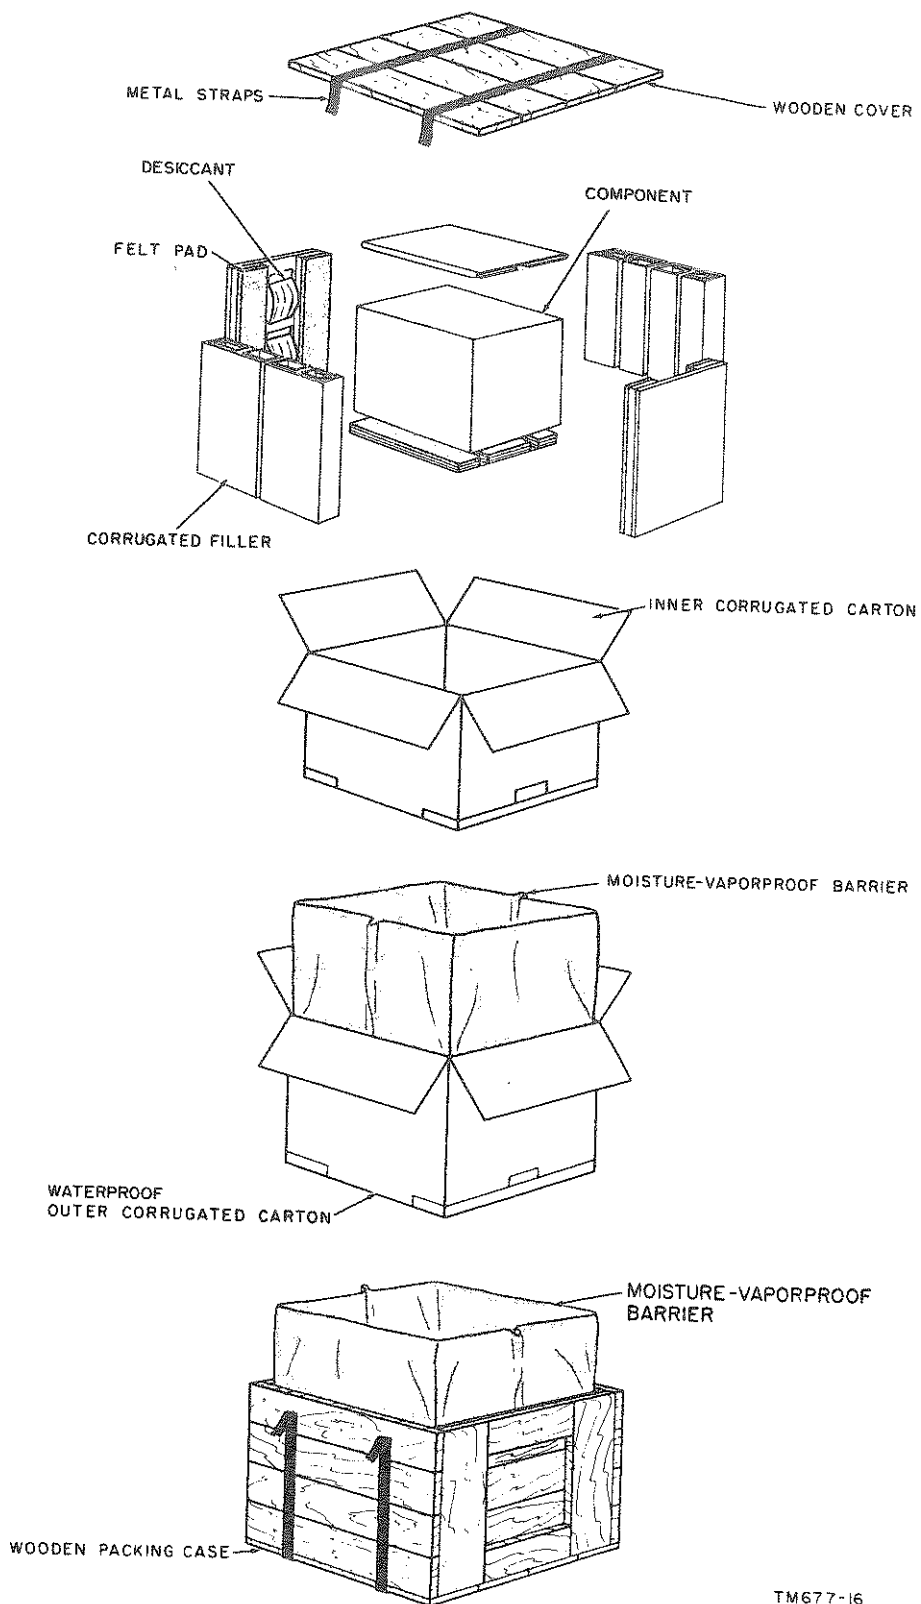

Figure 16. Typical unit packed for export shipment.
- (1) Cut and fold back the steel straps (fig. 16).
- (2) Remove the nails holding the top of the crate with a nail puller. Remove the top of the packing crate. *Do not attempt to pry off the sides and top; the equipment may become damaged.*
- (3) Remove the moistureproof barriers and any excelsior or corrugated paper covering the equipment inside the crate. See below for instructions on removing the waterproof metal container (if used).
- (4) Remove the equipment from its inner container.
- (5) Inspect the equipment for possible damage incurred during shipment.
- (6) Check the contents of the packing case against the master packing slip.